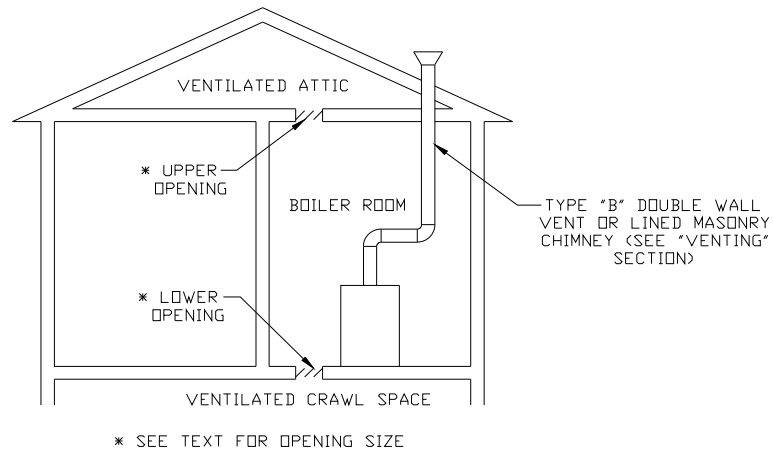
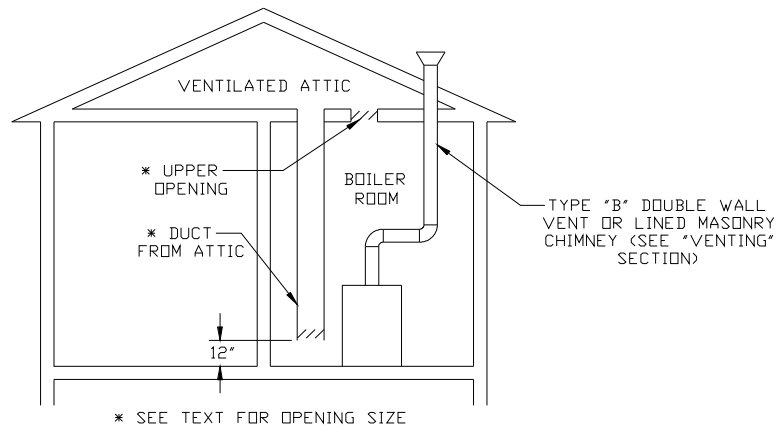

Figure 16: All Air From Outdoors, Ventiladed Crawl Space & Attic
Figure 17: All Air From Outdoors, Via Ventiladed Attic
- b. **Vertical ducts or Openings** (Figure 16 and Figure 17) require a minimum free area of 1 square inch per 4,000 Btu per hour input of all fuel burning appliances in the boiler room space but not less than 100 square inches. The cross-sectional area of the duct shall be the same as the required free area opening. The minimum opening size is 3 inches.